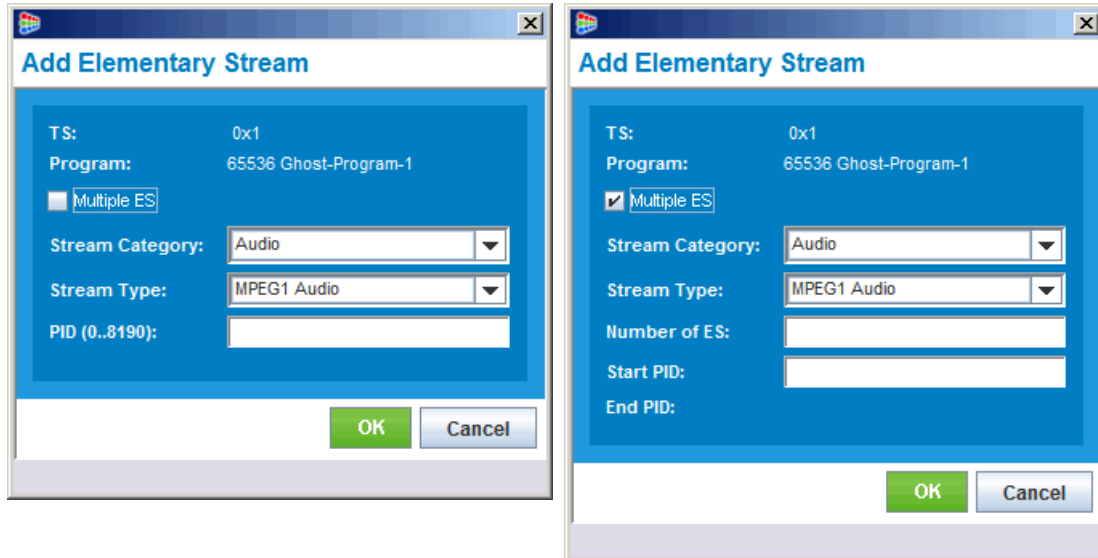

Figure 169. Adding Elementary Stream: Single ES left, Multiple ES right
5. Right click the new Ghost Program you have created, and choose **Add Elementary Stream** (Figure 169).